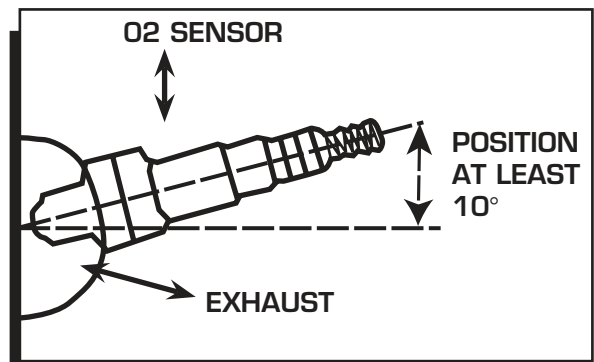

Figure 1 WBO₂ Sensor Location.
- b. The WBO₂ sensor should be at least 10° above horizontal to allow condensation runoff. Without this angle the sensor is significantly more likely to sustain water damage (Figure 1).